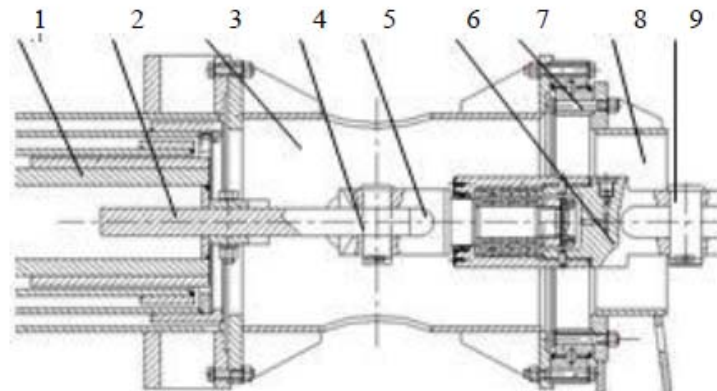

Fig.8-12 Placement of Kelly bar to be installed
- ① Install the parts No.1 and No.3 in Fig. 8-12, and keep the direction of hole (2) compatible with the position of observe hole (3).
- ② Two guides of Kelly bar bracket are supported on the ground. The hole (2) and observe hole (3) in Fig. 8-12 are at the horizontal direction.
- ③ Connect the rotary body of elevator (No.5 in Fig. 8-12) and Kelly bar traction lug with axle pin I. Lock the axle pin I (4) with a locking pin.
- ④ Notice! Both ends of elevator shall not be reversed! Otherwise, it will lead to the premature damage to the elevator!